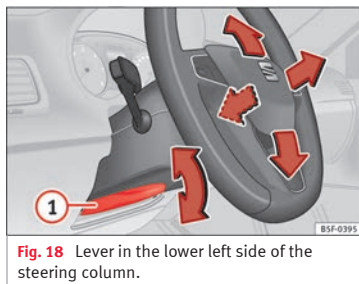

Fig. 18 Lever in the lower left side of the steering column.
- Adjusting the position of the steering wheel: Pull the » » » **Fig. 18** ① lever down, move the steering wheel to the desired position and lift the lever back up until it locks.